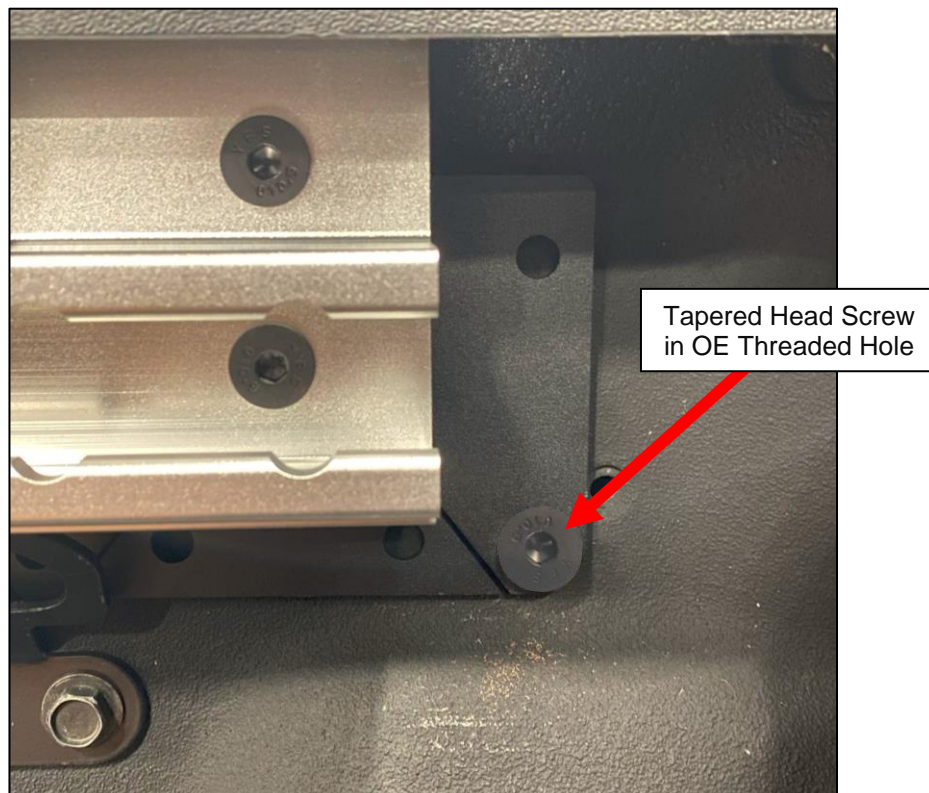

Figure 5
6. Position the Utility Track Assembly and insert the Tapered Head Screw into the Mounting Plate and Hole mentioned in *Step 5*. This will allow the Utility Track to pivot and be adjusted. *Figure 5*.